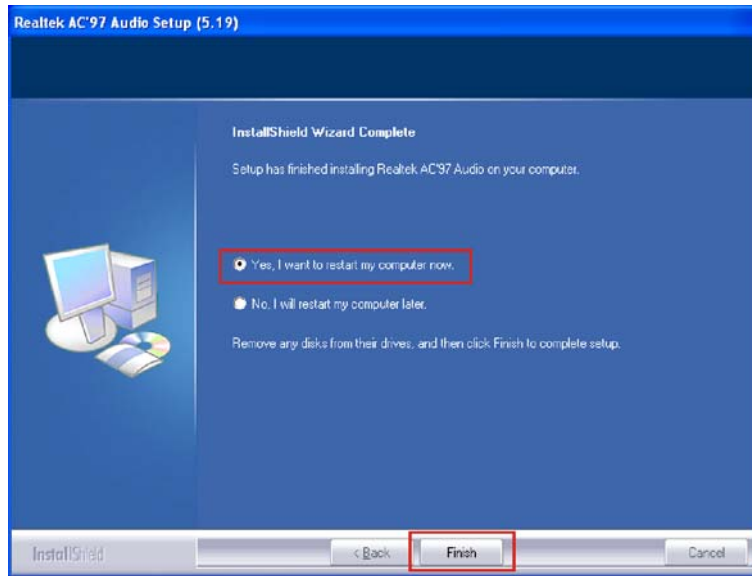

Figure 6-24: AC'97 Driver Installation Complete
Step 9: When the driver is installed, the driver installation finish screen in Figure 6-24 appears.